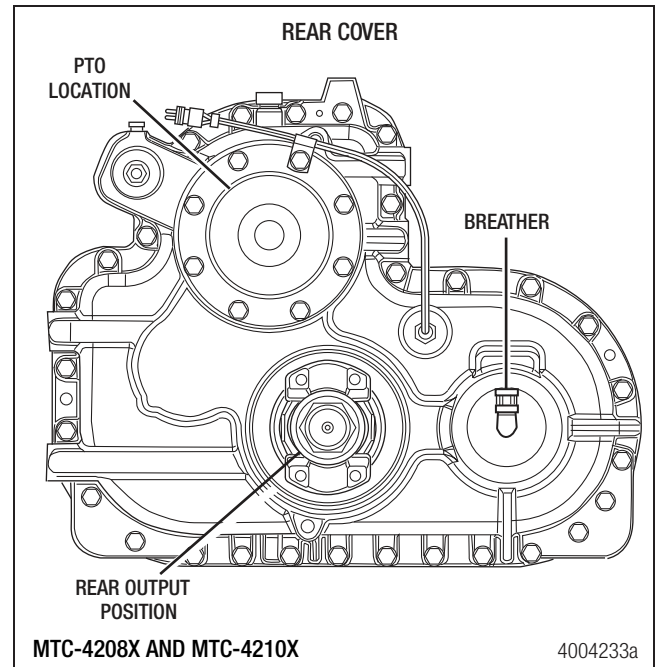

Figure 7.47
1. If necessary, install the breather into the rear cover. Figure 7.47.